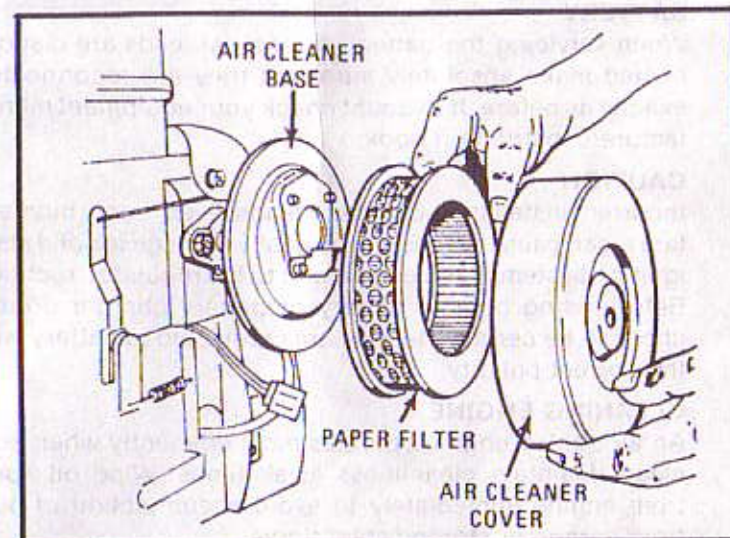

FIGURE 2
- A. Remove wing nut and air cleaner cover, Figure 2.
- B. Remove efficient, dry type paper element every ten (10) hrs. or more often if operated in dusty conditions. Tap on flat surface to dislodge clinging dirt or chaff. Low pressure air may assist cleaning, blow carefully from inside. If element is punctured, ruptured, torn or uncleanable — replacement elements are available at your nearby Tecumseh Service Dealer. — Buy an extra and keep it handy for emergencies. **DO NOT WASH IN ANY LIQUID — DO NOT OIL ELEMENT.**